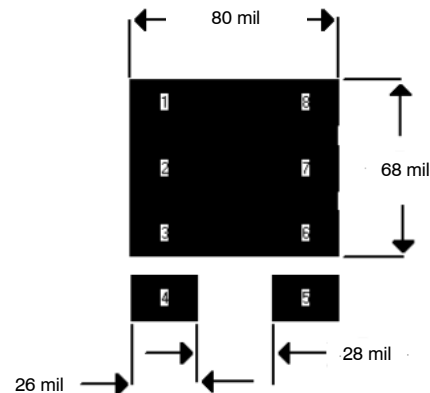
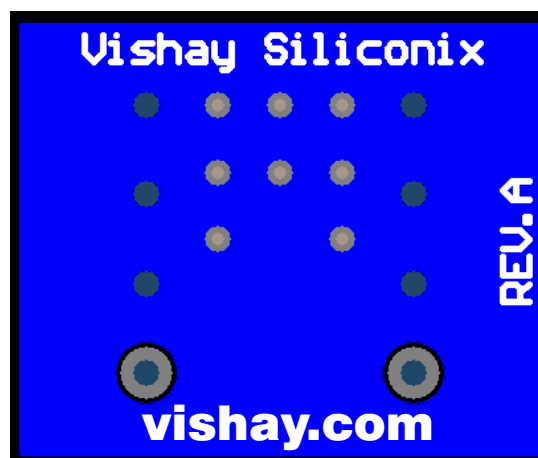

FIGURE 2. Footprint With Copper Spreading
FIGURE 3.
The pad pattern with copper spreading shown in Figure 2 improves the thermal area of the drain connections (pins 1,2,3,6,7,8) while remaining within the confines of the basic footprint. The drain copper area is 0.0054 sq. in. or 3.51 sq. mm). This will assist the power dissipation path away from the device (through the copper leadframe) and into the board and exterior chassis (if applicable) for the single device. The addition of a further copper area and/or the addition of vias to other board layers will enhance the performance still further. An example of this method is implemented on the Vishay Siliconix Evaluation Board described in the next section (Figure 3).
2) The evaluation board with the pad pattern described on Figure 3.	111°C/W